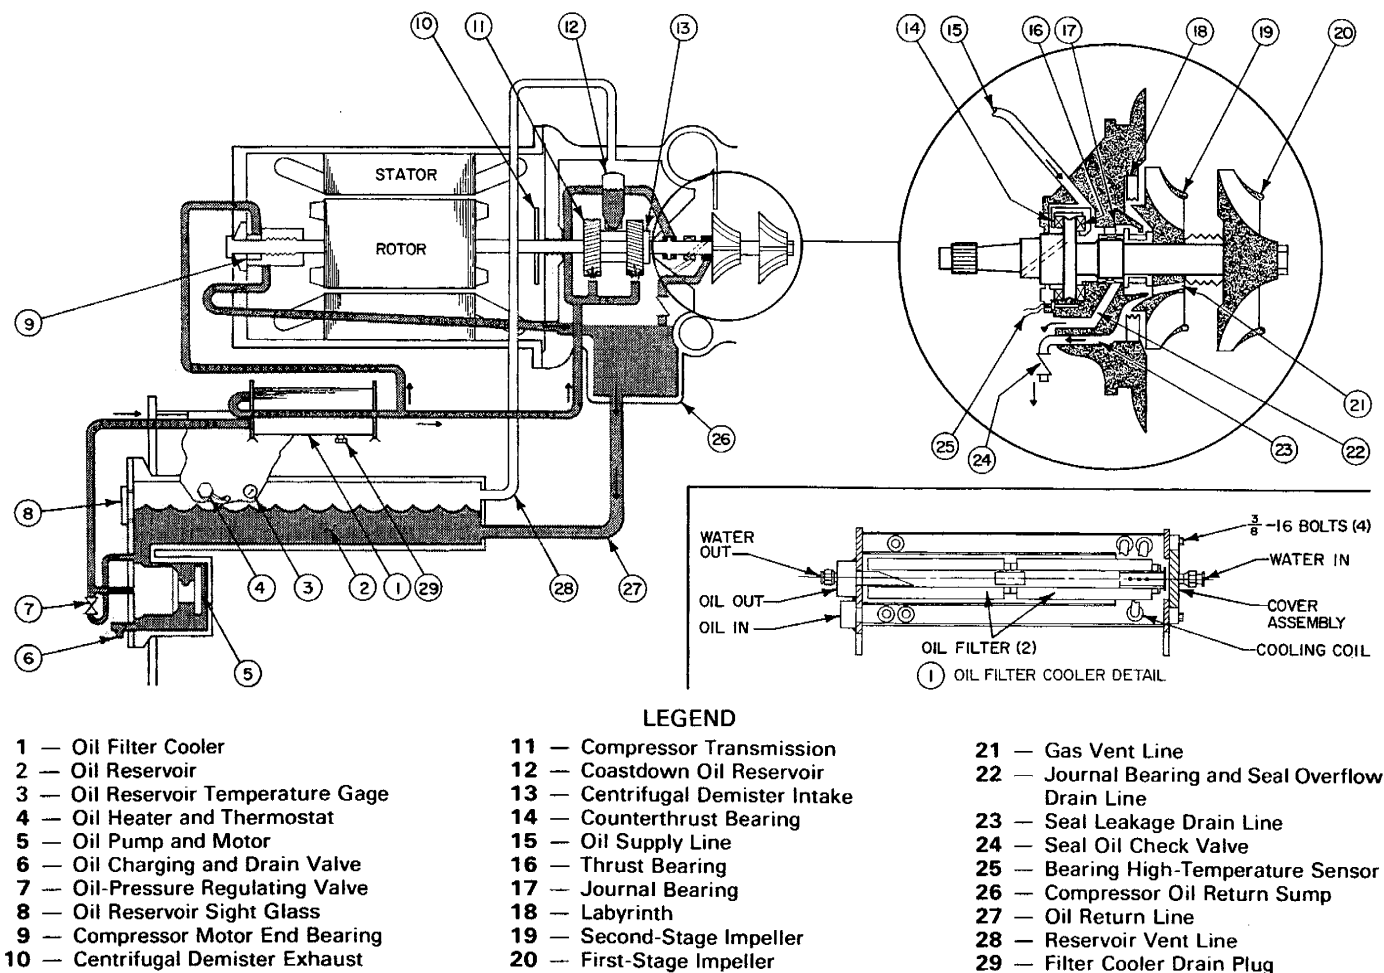

Fig. 10 — 19EB Lubrication Cycle
3. When unishell pressure drops to approximately 5 psig (35 kPa), drain the oil from the reservoir through the charging valve (item 6, Fig. 10), and from the filter cooler by removing the drain plug (item 29, Fig. 10).
4. When unishell pressure reaches 0 psig (0 kPa), remove the oil cooler cover and replace the 2 oil filters (item 1, Fig. 10).
5. Replace the oil cooler cover, using a new O-ring. Add oil through the charging valve. Approximately 15 gallons (57 L) brings the oil level to 1/3 sight glass (item 8, Fig. 10).